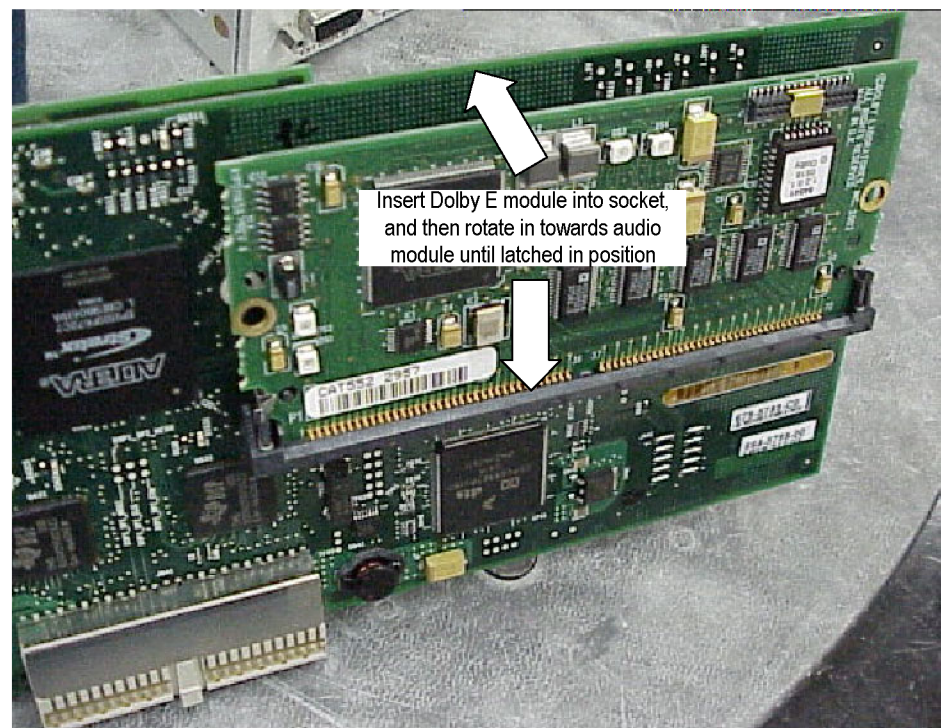

Figure 13: Installing the Dolby E module
4. Install the Dolby E module supplied in this kit into J631 of the audio module. Fully insert the connector on the Dolby E module into the socket on the audio module, and then rotate the Dolby E module in towards the audio module until the Dolby E module latches into position. (See Figure 13.)